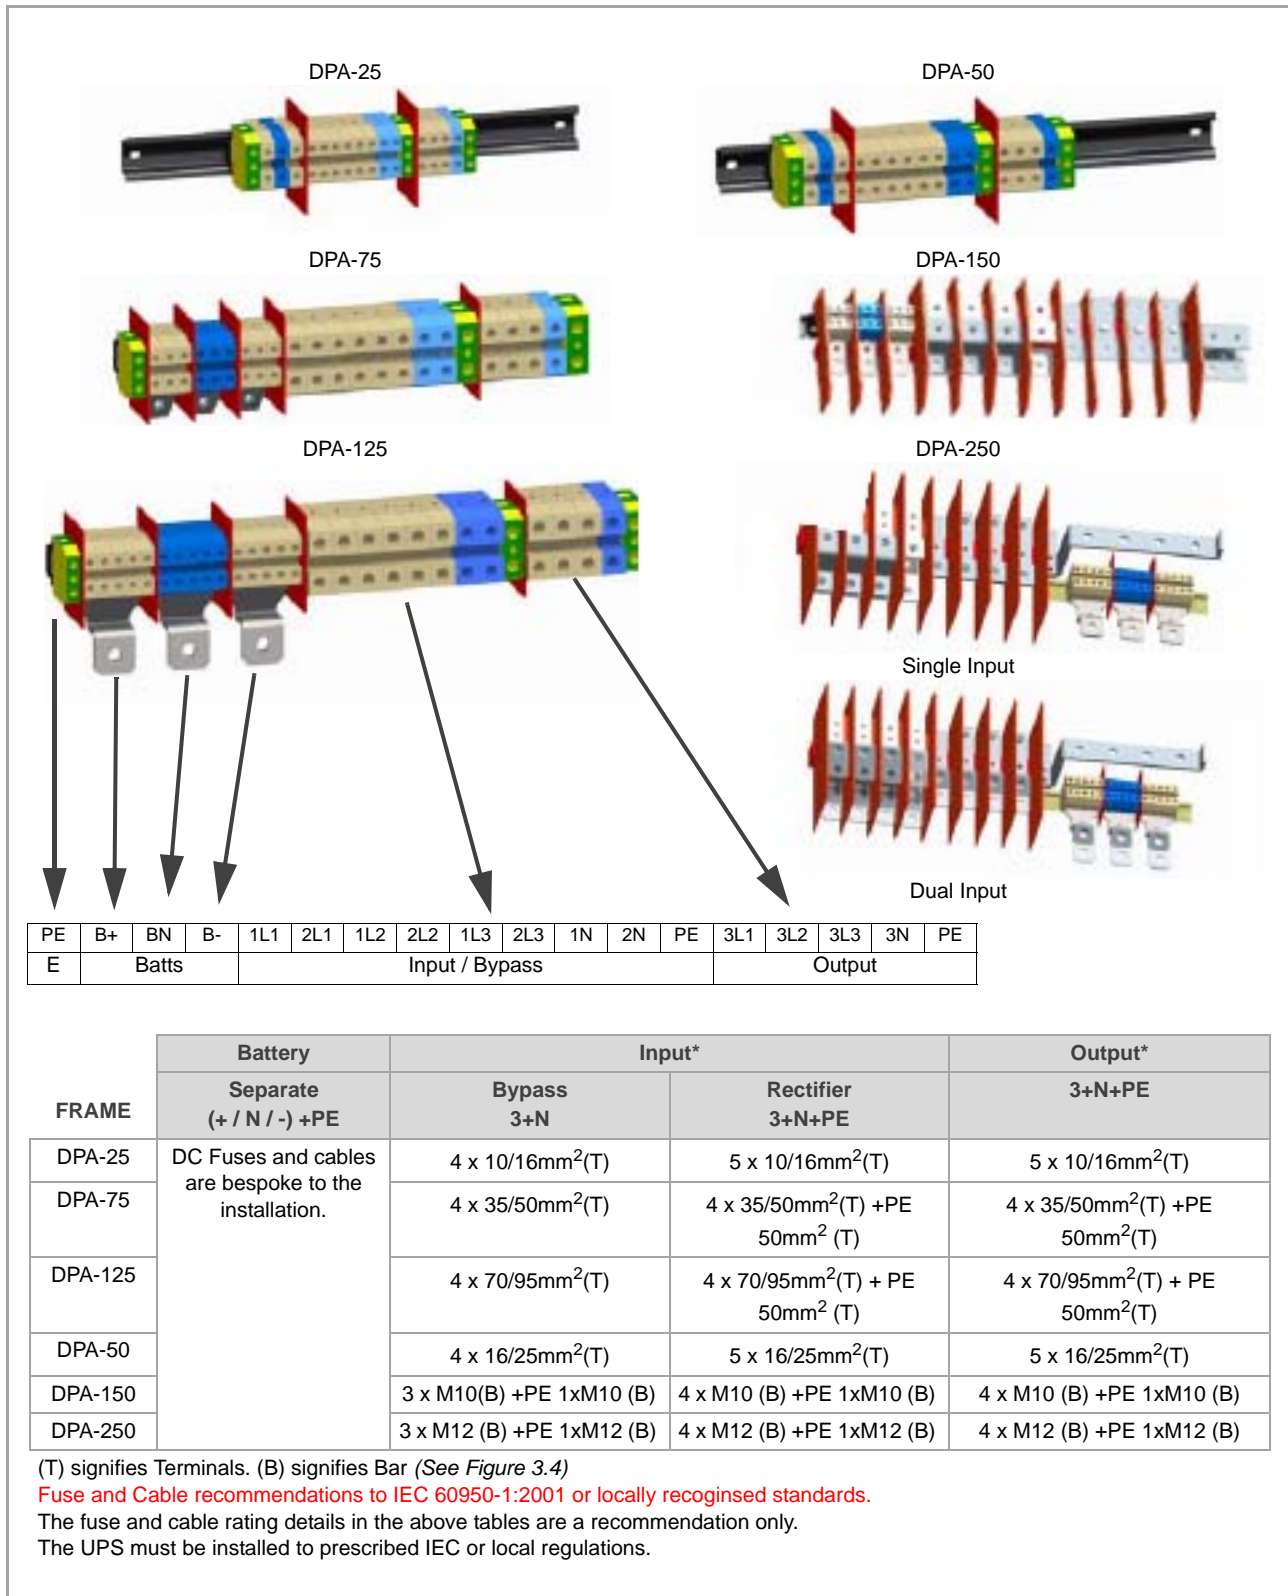

Figure 3.4 Terminal Layouts
Figure 3.4 outlines of the power terminal connections with the various UPS cabinets including connection sizes. Detailed connection diagrams can be found in:
1. Connect the UPS input supply cables to terminals 1L1, 1L2, 1L3 and 1N on the UPS main terminal block (See Figure 3.4). Ensure correct (clockwise) phase rotation.
3. Connect the protective earth cable from the Load Distribution Board to the output protective earth (PE) terminals, as shown in Figure 3.4.